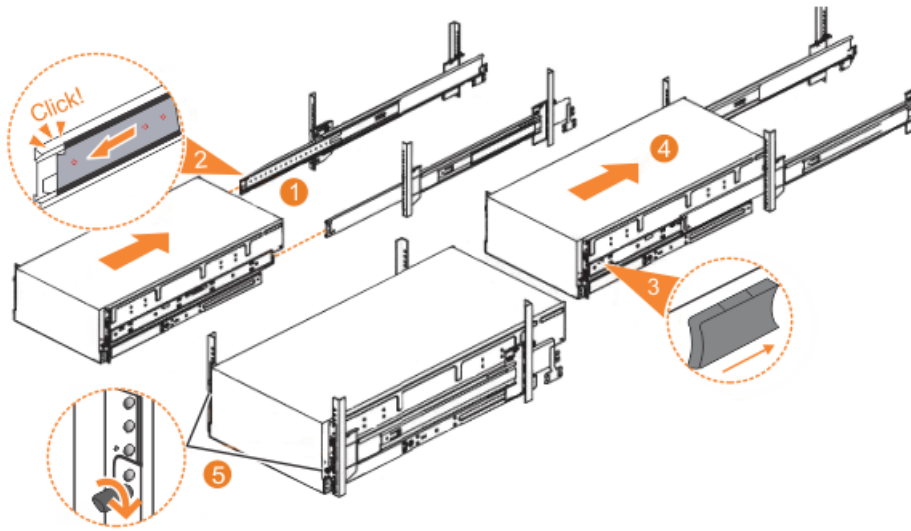

Figure 39. Replacing the Model 092 enclosure in the rack
1. Fully extend the left and right drawer sections from the rack to lock the rails in the extended position (1 in Figure 39 on page 56).
2. Ensure that the ball bearing retainers click into place inside the front of the left and right drawer sections (2 in Figure 39 on page 56).
4. Locate the left and right blue release tabs near the front of the enclosure. Press both release tabs forward to unlock the drawer mechanism (3 in Figure 39 on page 56).
5. Push the enclosure firmly into the rack (4 in Figure 39 on page 56).
6. Tighten the locking thumb screws (5 in Figure 39 on page 56) to secure the enclosure in the rack.